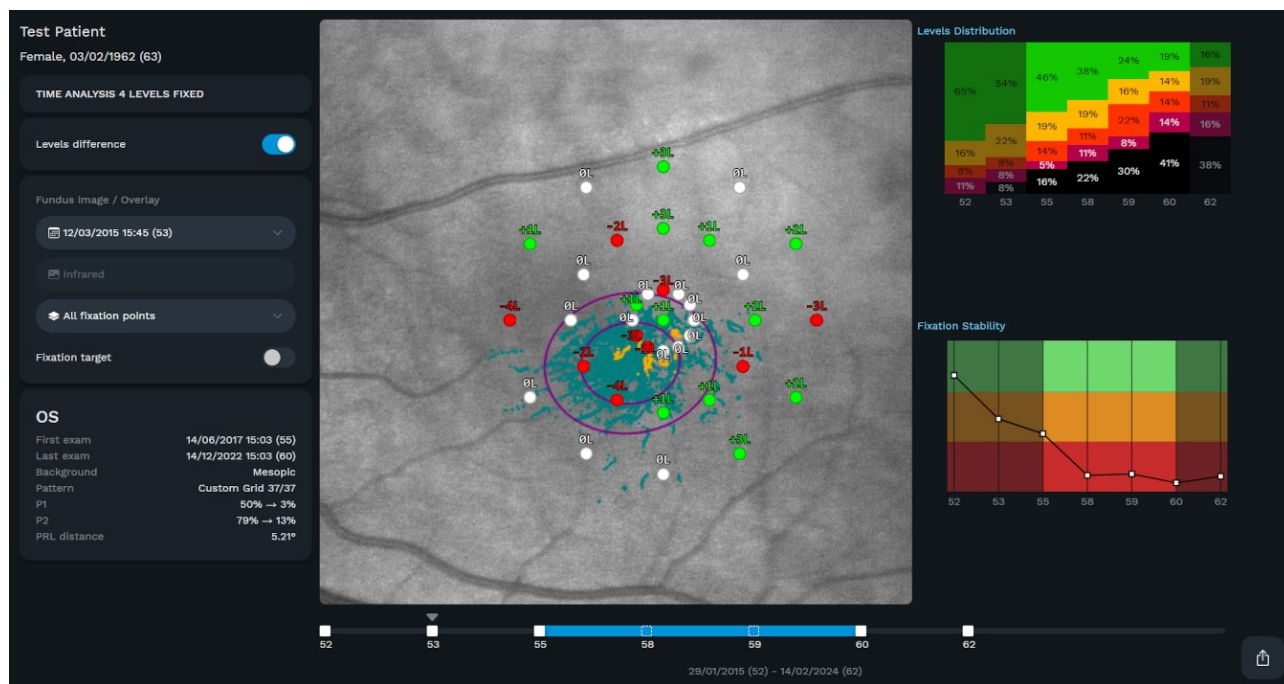

Fig. 65 – Time Analysis screen for a **4 Levels Fixed Strategy** exam sequence
3. Differential Map: displays the difference in the thresholds (or in the levels, for SupraThreshold exams, see Fig. 65) between the pair of exams selected with the selector at the bottom of the screen. Positive differences are displayed in green, no difference in white, negative differences up to -2 in orange, differences below -2 in red. The differential map is overlapped to the image of a selected exam (that can be chosen with the selector at point 6), which may not be part of the selected pair of exams
The **Time Analysis** for a SupraThreshold Strategy sequence of exams (such as the one in Fig. 65) is similar to the one for a 4-2 Strategy, with the following differences: